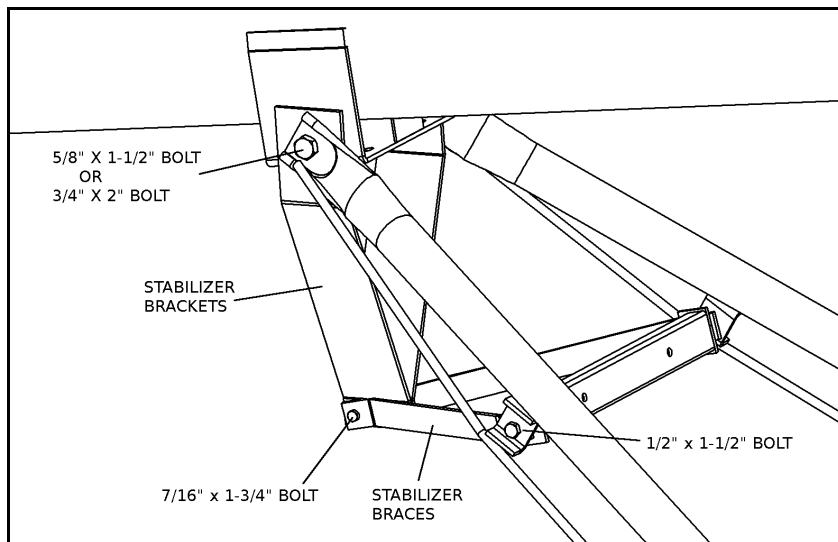

Figure 3.19 8" x 26', 31', 36', 41' and 10" x 31'
- c. Next, fasten the two stabilizer brackets and stabilizer braces using fasteners as shown in the appropriate Figure 3.19 - 3.21.